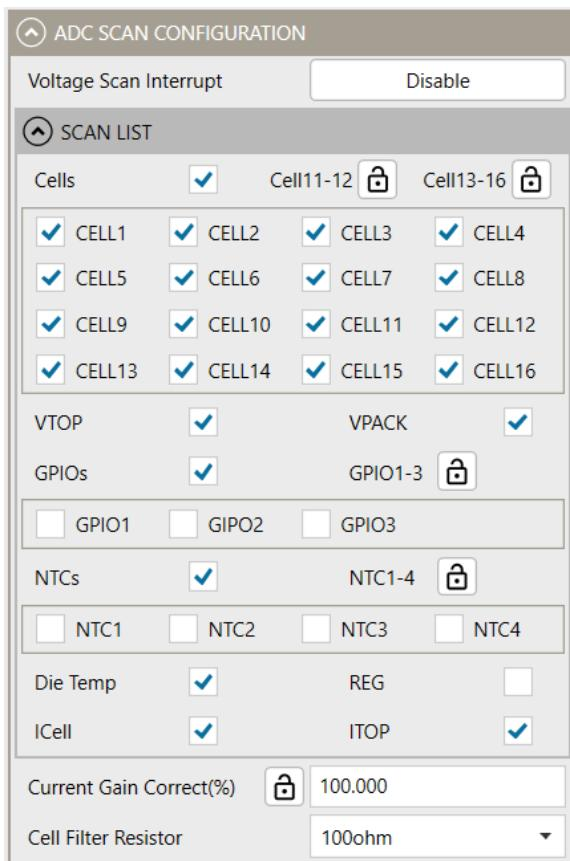

Figure 15: ADC Scan Configuration
11. Configure the ADC scan parameters (see Figure 15).